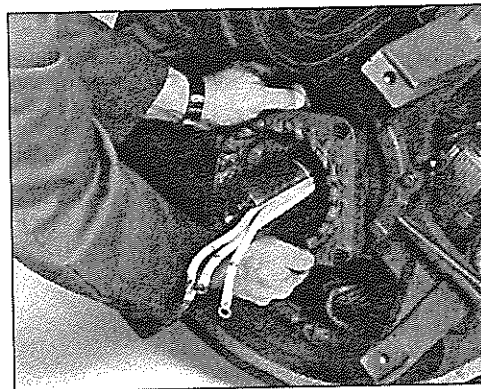

Figure 6-69
4. Install the PMG stator on it's mounting pads, with the leads in the left (9 o'clock) inboard position, and secure with the four mounting capscrews and belleville washers (figures 6-69 and 6-72). Torque to 4 ft-lb (5 N-m).